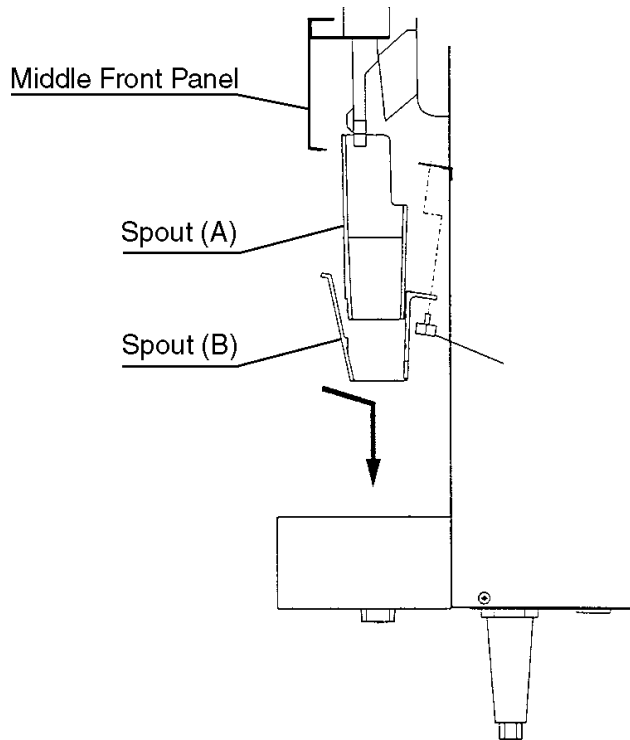
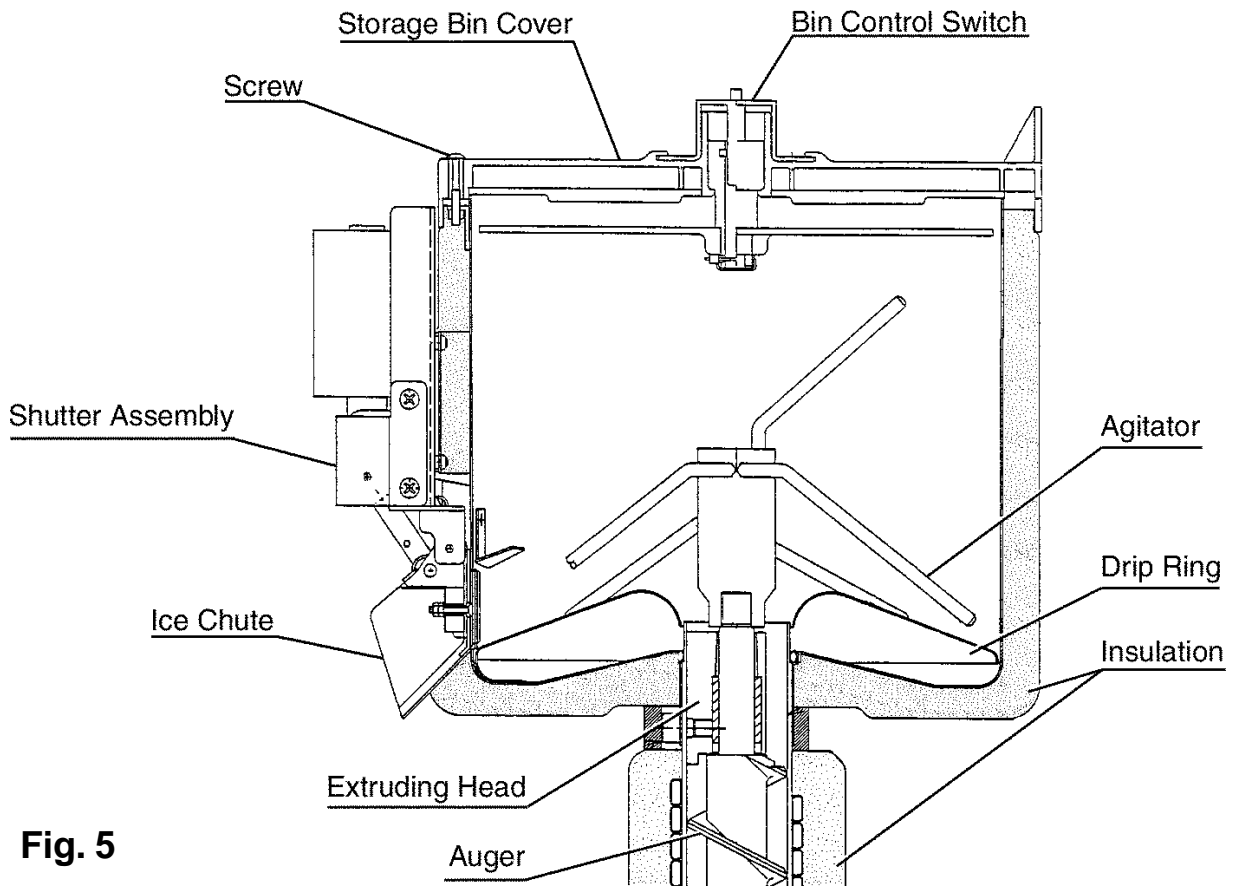

Fig. 4
Fig. 5
6. Remove Spouts (A) and (B) by removing the Thumbscrew, sliding the Spouts backward and then pulling them down. (See Fig. 4.)
7. Pull out Spout (A) from Spout (B).
8. Remove the Top Panel and Storage Bin Cover. (See Fig. 5.)